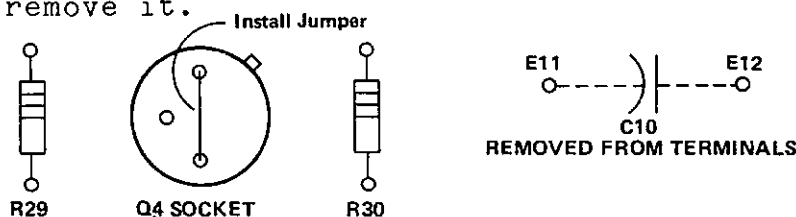
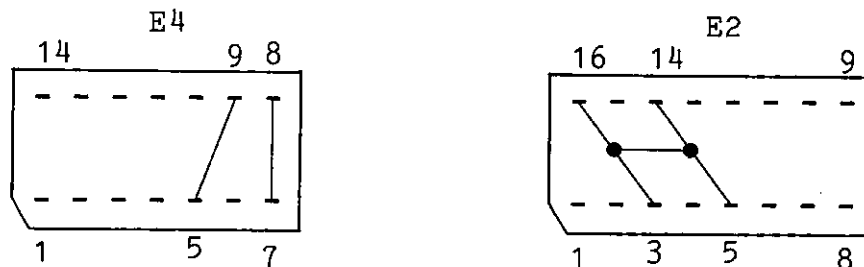

Figure 2.14. W0678-19B/GR/DROOP MODULE CHANGES
Figure 2.15. Programming of W0678-19B/GR DROOP Module Headers for AN/FPN-42 Transmitters
(2) For stations not employing tail drive, if Q4 has not been removed, do so now. Insert a jumper between the source and drain of Q4, see Figures 2.14 and 7.34.
(3) For stations not employing tail drive, if C10 has not been removed, remove it.
(1) Jumper pin 5 to pin 9 and pin 7 to pin 8 on E4. Insert a jumper between pin 3 and pins 5, 14, and 16 on E2. (See Figure 2.15.) Insert a jumper between the source and drain pins of the Q4 socket and remove C10 (see Figures 2.14 and 7.34).